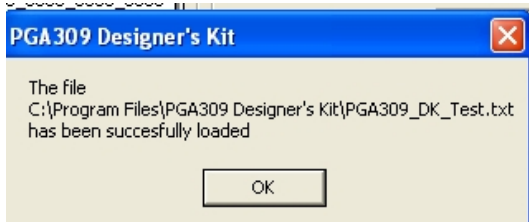

Figure 13: Open File Acknowledge Pop-up Window
- 2) Select "PGA309_DK_Test.txt" and open this file (located in the PGA309EVM Software directory – typically C:\Program Files\PGA309 Designer's Kit). A pop-up window will appear as in Figure 13. Click on "OK".